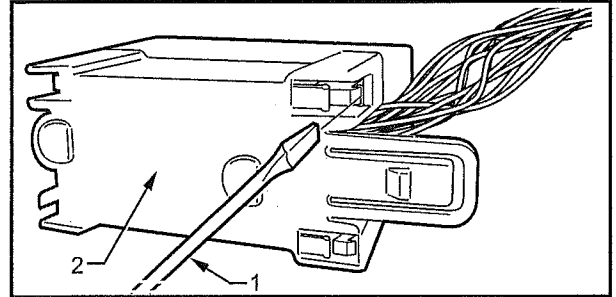

FIGURE 5
- 7. Use a small flat bladed screwdriver (1) to release the fuse box stand (2) off from the body of the fuse box. Refer to Figure 5.